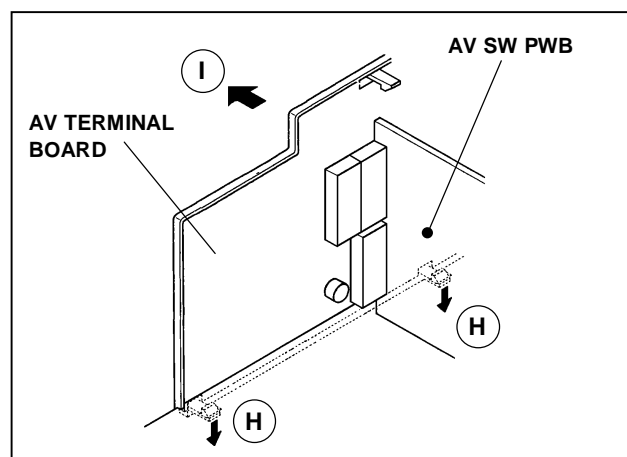

Fig. 3
2. As shown in Fig. 3, remove the 2 claws marked **H** under the CHASSIS.
3. As shown in Fig. 3, remove the AV TERMINAL BOARD slightly in the direction of arrow **I**.